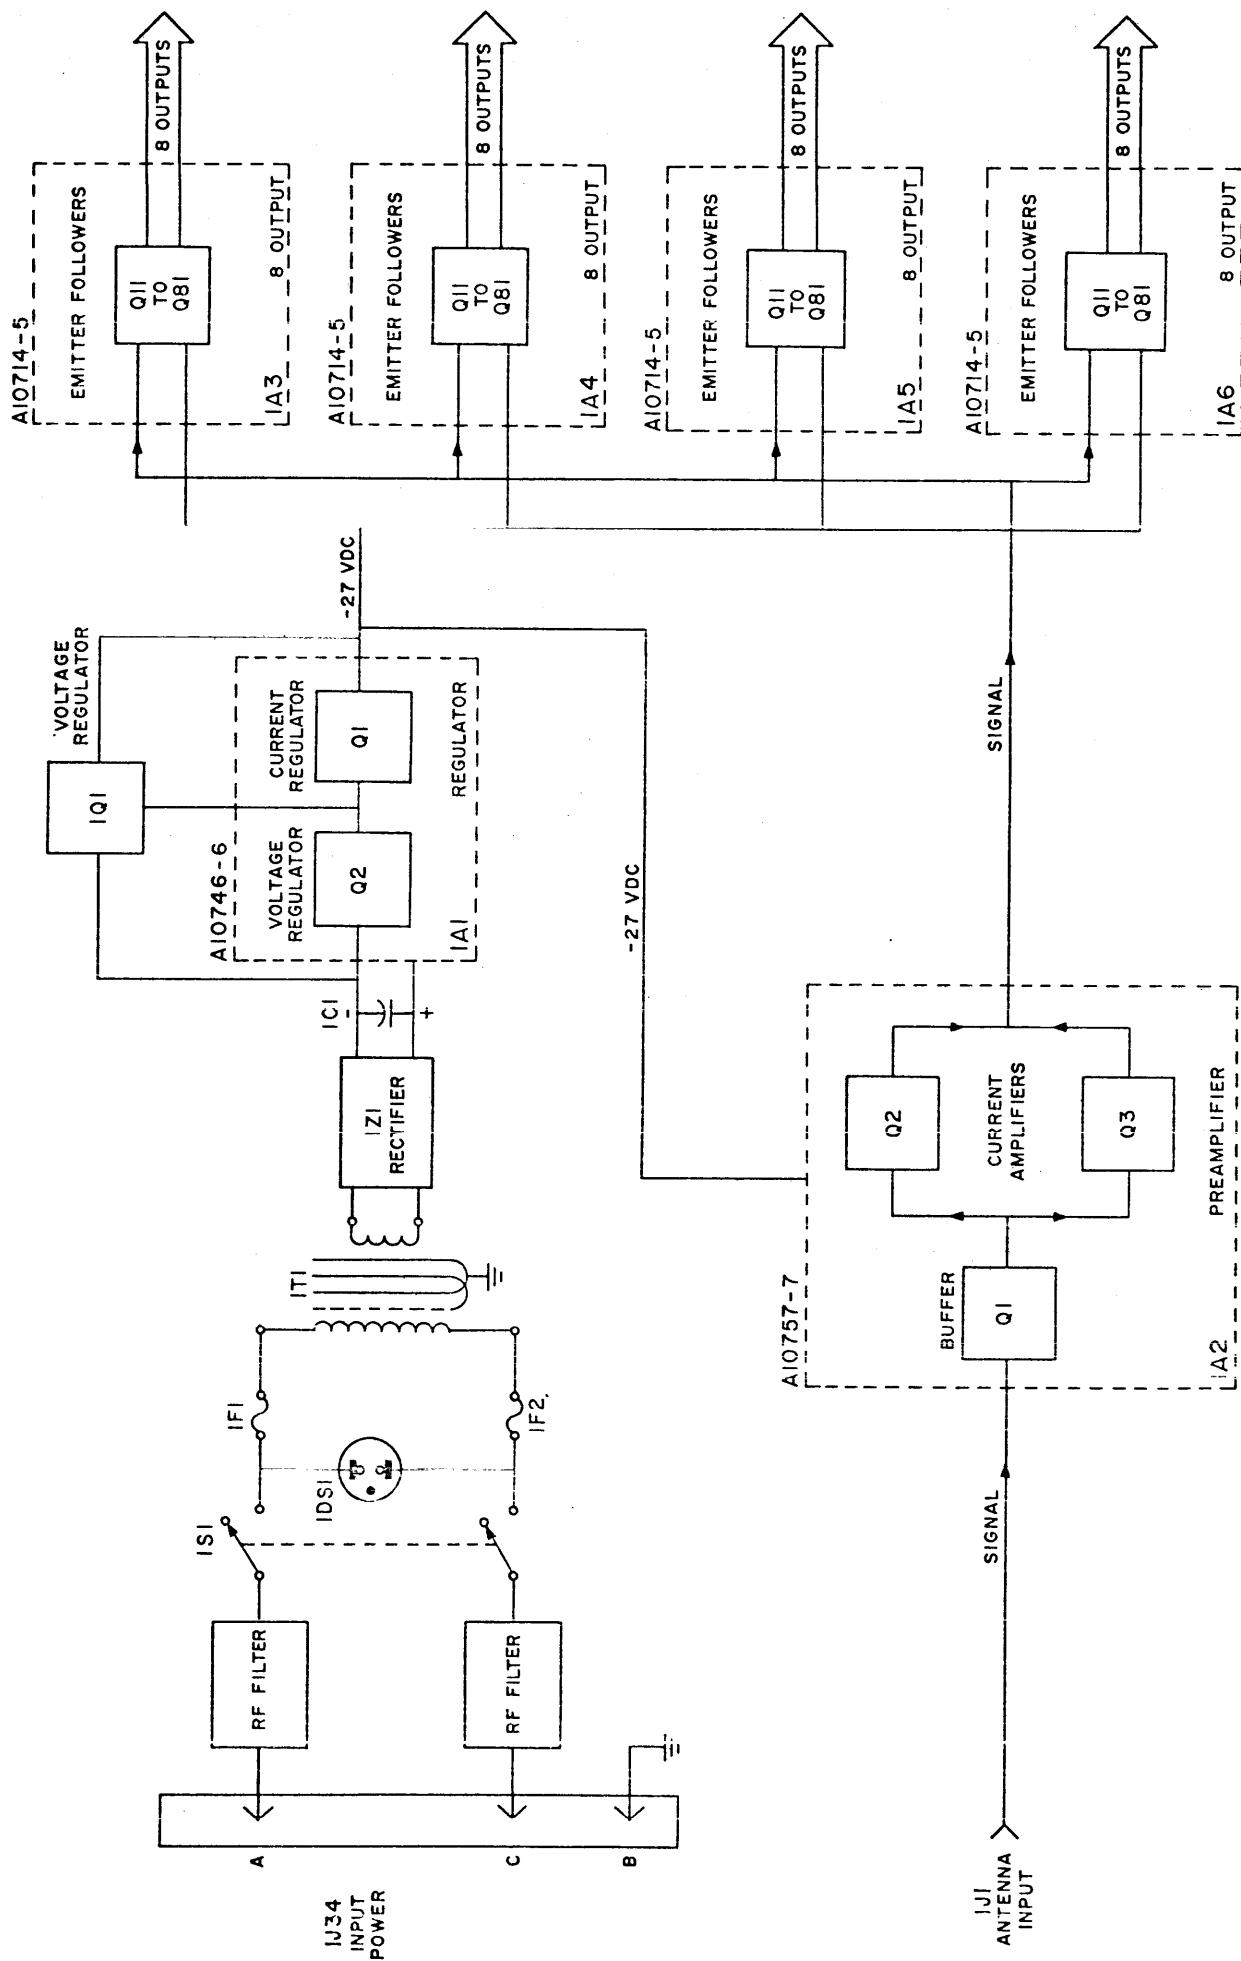

FIGURE 4-1 BLOCK DIAGRAM, AMC-32
(1) The Thirty-Two Output Antenna Multicoupler is a broadband distribution system designed to couple a single 75 ohm antenna to the antenna inputs of up to thirty-two HF communications receivers. Three major circuits comprise the AMC-32 and their operation is described in succeeding paragraphs in this section. They are outlined in block form in Figure 4-1, Block Diagram, AMC-32; and schematically in Figure 7-1, System Schematic, AMC-32.